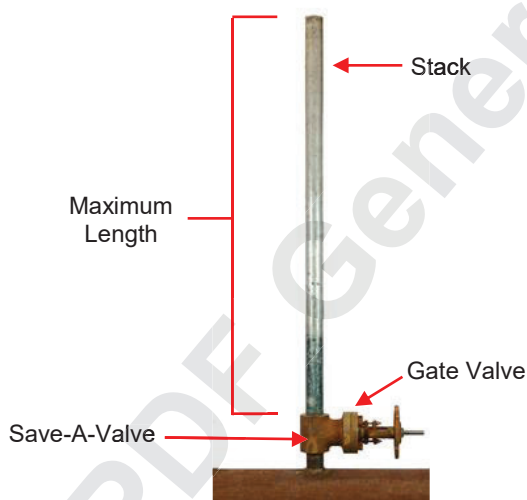
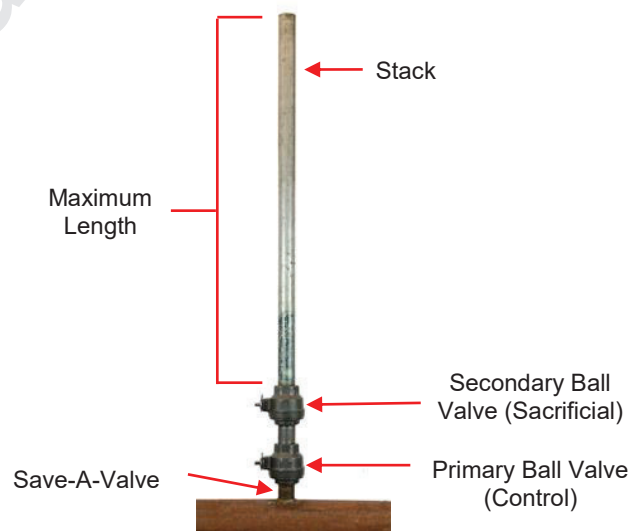

Figure 1. Straight Stack with Gate Valve
Figure 2. Straight Stack with Ball Valves
1. For threaded straight stack configurations (see Figure 1, "Straight Stack with Gate Valve," and Figure 2, "Straight Stack with Ball Valves") up to 2" nominal pipe size, see Table 1, "Vent Stack Specifications for Applications < 60 psig," for maximum allowable stack length based on material type used.
- Vent stacks in applications > 60 psig can only be in a straight configuration. For straight stack configurations (see Figure 1 and Figure 2), see Table 3, "Vent Stack Specifications for Applications \$\geq 60\$ psig." for maximum allowable stack height based on material type.